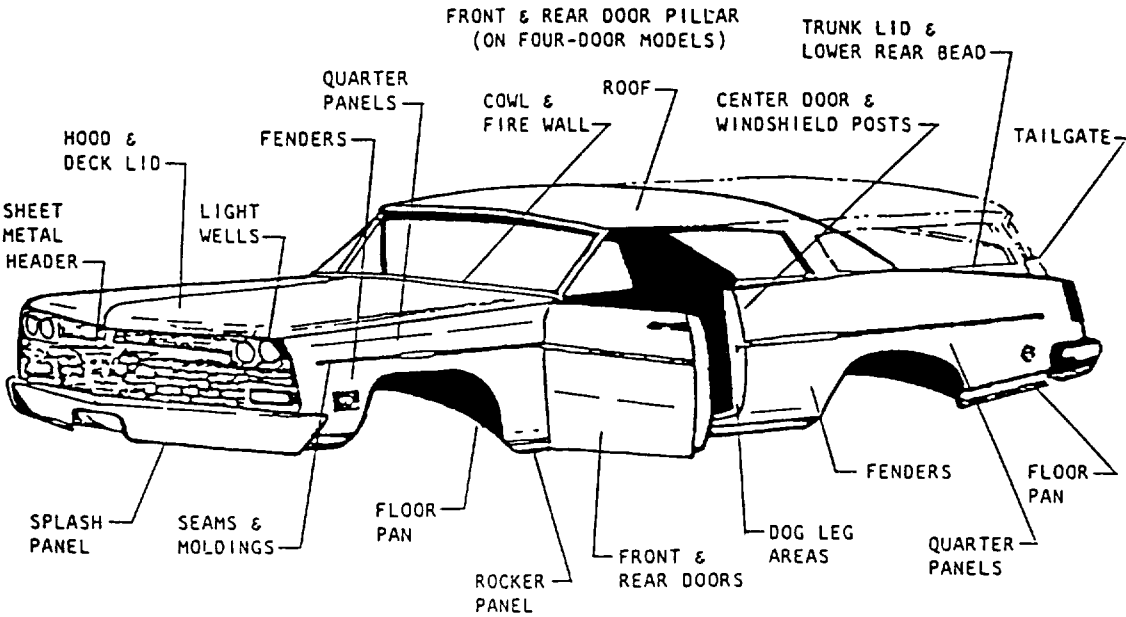

FIGURE 6. Vehicle areas to be rustproofed.
- e. Hood and deck lid (see figures 6, 7, 8)
- f. Cowl and fire wall (see figures 6, 7, 8)
- i. Floor pan (see figure 6, 7, 8)
- o. Tailgate (see figure 6)
- p. Roofs and trunk cabs (see figures 6, 7, 8)